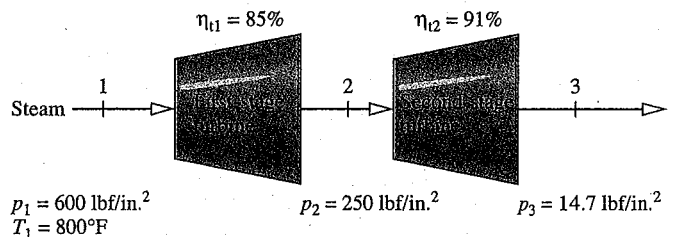

Fig. P6.167
6.167 As shown in Fig. P6.167, a well-insulated turbine operating at steady state has two stages in series. Steam enters the first stage at 800°F, 600 lbf/in.² and exits at 250 lbf/in.². The steam then enters the second stage and exits at 14.7 lbf/in.². The isentropic efficiencies of the stages are 85% and 91%, respectively. Show the principal states on a T-s diagram. At the exit of the second stage, determine the temperature, in °F, if superheated vapor exits or the quality if a two-phase liquid-vapor mixture exits. Also determine the work developed by each stage, in Btu per lb of steam flowing.